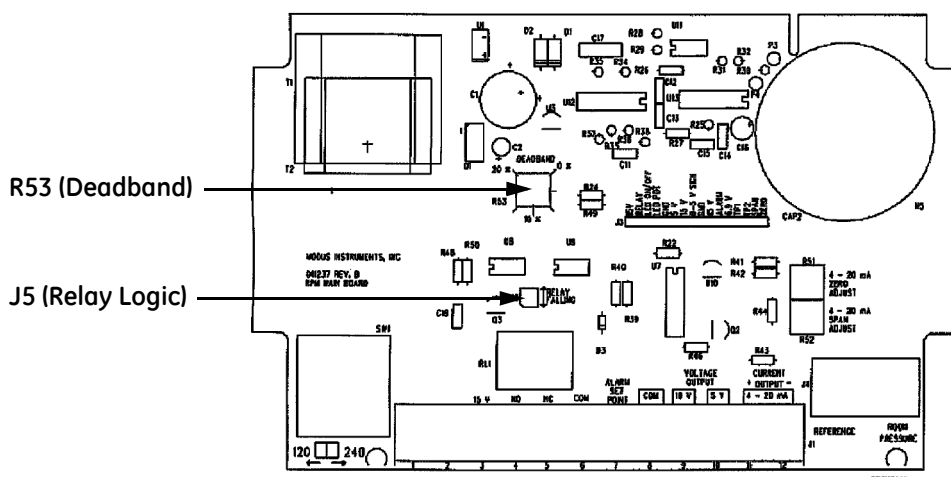

Figure 3: Main Board
The main board (see *Figure 3* below) consists of a power supply, a pressure-sensing element and associated electronics, alarm circuitry and a relay.
- Locate the **4-20 mA ZERO ADJUST**, **R51**, and the **4-20 mA SPAN ADJUST**, **R52** potentiometers on the main board, (see Figure 3 on page 3).